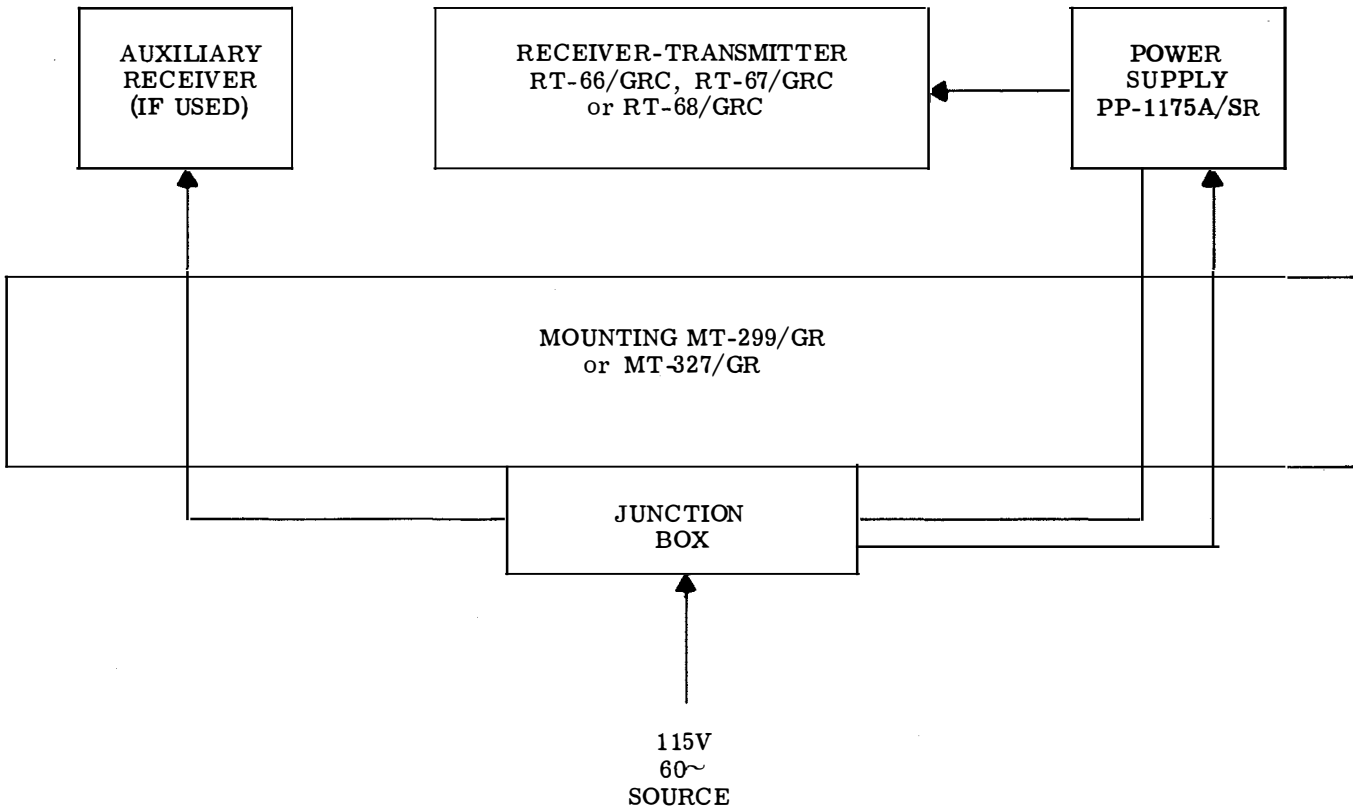

Figure 1-2. Typical Installation without Remote Control Operation Provisions
Power Supply PP-1175A/SR is designed to operate from a 115-volt, single-phase, 60-cycle power source to supply the plate, filament, bias, and relay voltages listed in paragraph 1-4. It is intended primarily to provide operating power to Receiver-Transmitter RT-66/GRC, RT-67/GRC, or RT-68/GRC with or without auxiliary Radio Receiver R-108/GRC, R-109/GRC, or R-110/GRC. Means are provided for energizing the power circuits for the receivers only, or the power circuits for both the receivers and transmitter. When interconnected with Adapter, Control MX-1986/SRC, it permits remote control of the above equipments providing modifications are made to the junction box of the associated Mounting MT-299/GR or MT-327/GR as discussed in paragraph 1-3. Figures 1-2 and 1-3 are simplified block diagrams of typical systems in which the power supply can be used.
When utilized with Receiver-Transmitter RT-66/GRC, RT-67/GRC, or RT-68/GRC simultaneously with auxiliary Radio Receiver R-108/GRC, R-109/GRC or R-110/GRC in a typical installation as shown in figures 1-2 and 1-3, an external single-phase, 115-volt, 60-cycle power source capable of delivering 200 watts is required.
Power Supply PP-1175A/SR operates from a single-phase, 115-volt, 60-cycle power source. When operated as an integral part of a radio set installation (see figures 1-2 and 1-3), it provides all the necessary dc voltages for operation of Receiver-Transmitter RT-66/GRC, RT-67/GRC, or RT-68/GRC and auxiliary equipments such as Radio Receiver R-108/GRC, R-109/GRC, or R-110/GRC.
(1) LOCAL OPERATION. - This sequence of operation assumes that Power Supply PP-1175A/SR is installed in a system without remote control provisions (see figure 1-2). To place the power supply in operation, proceed as follows: